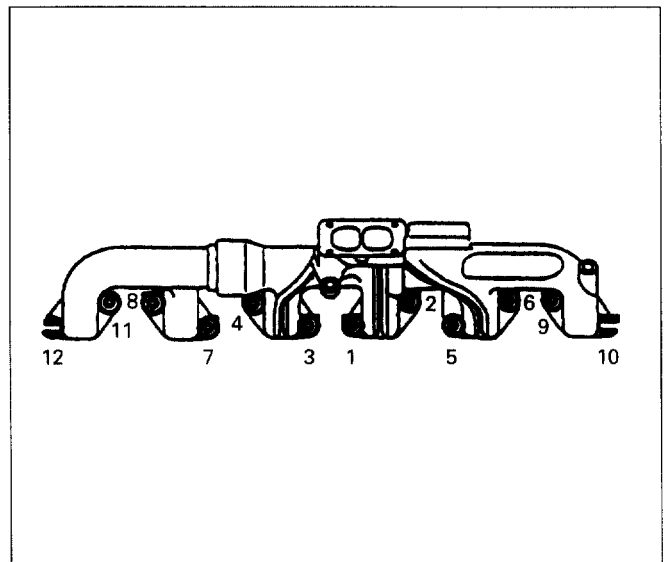

Figure 100 – Exhaust Manifold Nut Tightening Sequence
Install or Connect (Figure 100)
2. Exhaust manifold nuts, bolts, washers and the spacers (Figure 100).